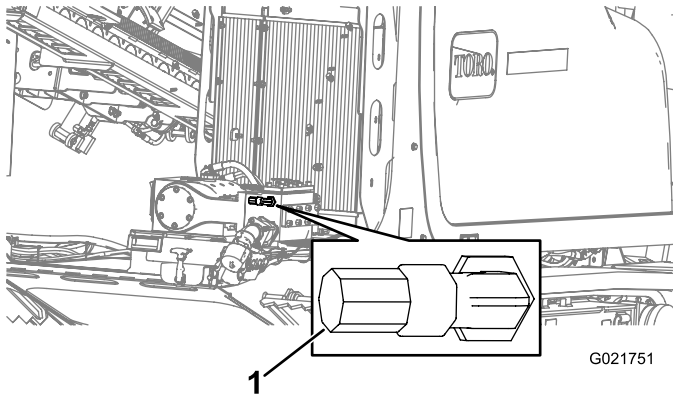

Figure 119
5. Connect the spray-hose attachment to the fitting (Figure 119).